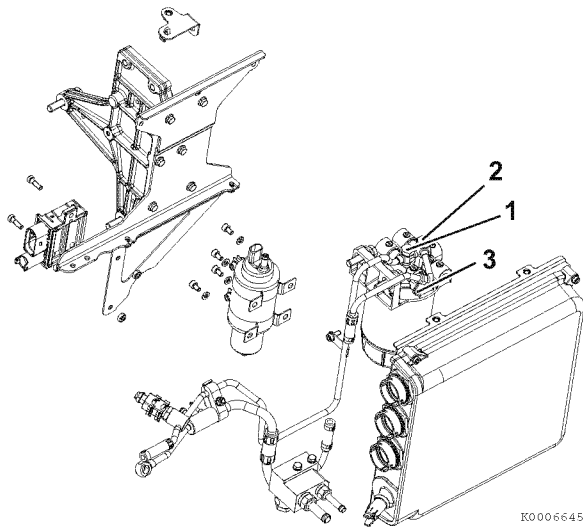

Figure 5-129
- Disconnect inlet (1, **Figure 5-129**) and outlet (2, **Figure 5-129**) hoses from the fuel fine filter.
- Remove clamp bolt (3, **Figure 5-129**) to allow fuel inlet line (4, **Figure 5-129**) to move.